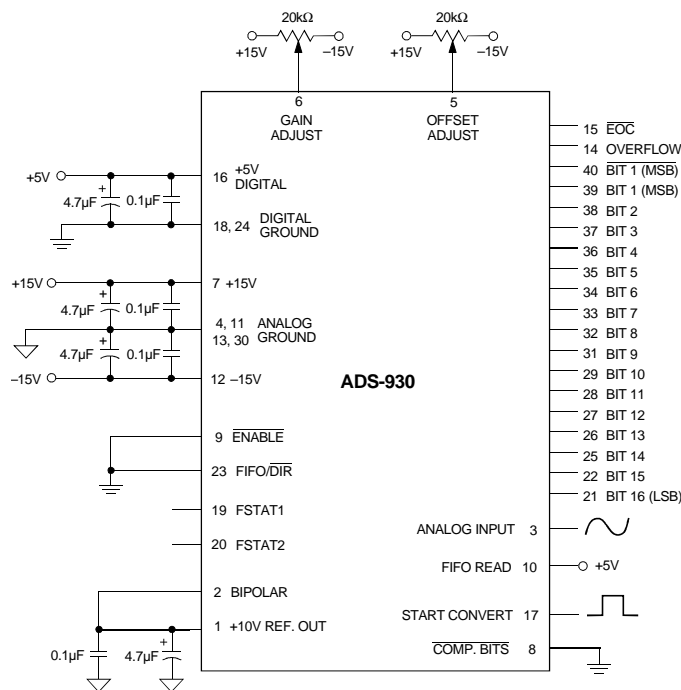

Figure 2. Bipolar Connection Diagram
- The ADS-930 achieves its specified accuracies without the need for external calibration. If required, the device's small initial offset and gain errors can be reduced to zero using the adjustment circuitry shown in Figure 2. When using this circuitry, or any similar offset and gain calibration hardware, make adjustments following warmup. To avoid interaction, always adjust offset before gain. Tie pins 5 and 6 to ANALOG GROUND (pin 4) if not using offset and gain adjust circuits.
(Refer to Figure 2 and Tables 3a, and 3b)
Connect the converter per Table 2 for the appropriate input voltage range. Any offset/gain calibration procedures should not be implemented until the device is fully warmed up. To avoid interaction, adjust offset before gain. The ranges of adjustment for the circuits in Figure 2 are guaranteed to compensate for the ADS-930's initial accuracy errors and may not be able to compensate for additional system errors.